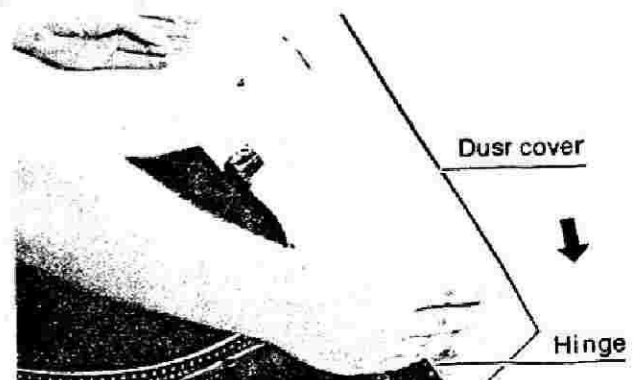

Fig. 7
**3. Installation of the dust cover (Fig. 7)**